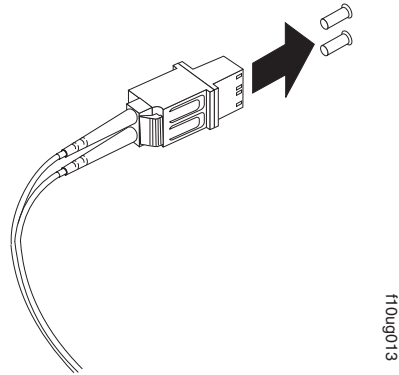

Figure 43. Removing the LC-SC cable adapter protective caps
3. Remove the two protective caps from the LC connector end of the LC-SC cable adapter as shown in Figure 43. Save the protective caps for future use.